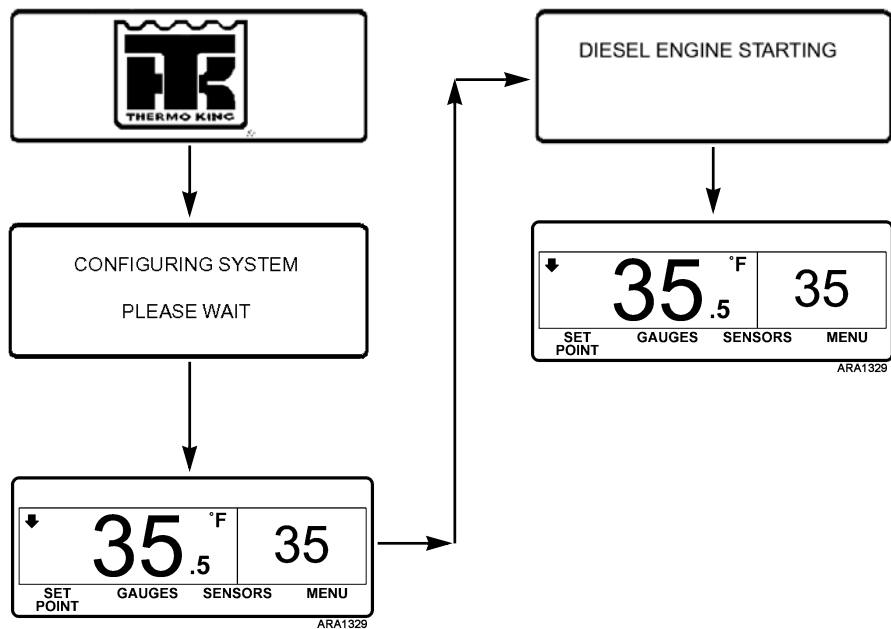

Figure 27: Turning Unit On Screen Sequence, One Language Enabled
2. The display briefly shows a Thermo King Logo. See Figure 27 on page 58.
3. The “Configuring System” Screen briefly appears while communications are established and the unit prepares for operation. See Figure 27.
4. The Standard Display showing box temperature and setpoint briefly appears. See “Figure 27: Turning Unit On Screen Sequence, One Language Enabled,” on page 58.
6. The Standard Display showing box temperature and setpoint reappears when the unit is running. (See Figure 27.)